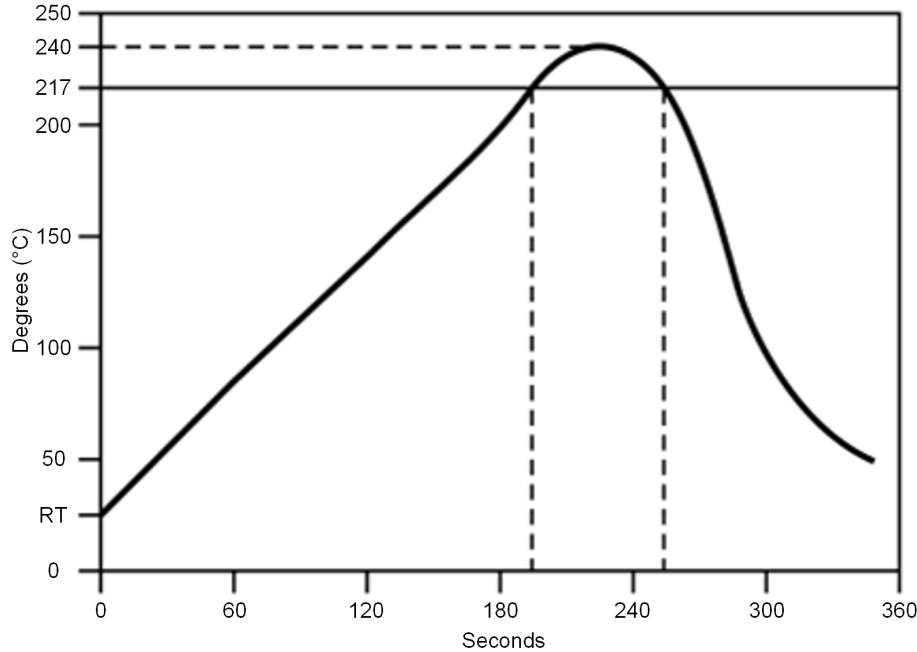

图 10-1. Temperature Profile for Evaluation of Solder Heat Resistance of a Component (at Solder Joint)
- Temperature measurement: Thermocouple d = 0.1mm to 0.2mm CA (K) or CC (T) at soldering portion or equivalent method
- Allowable reflow soldering times: 2 times based on the reflow soldering profile (see 图 10-1)
- Temperature profile: Reflow soldering will be done according to the temperature profile (see 图 10-1)